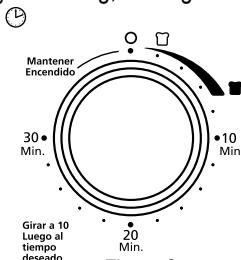

Figure 2
- 3. Timer Selector Knob** – Allows to adjust the dial to the desired time for up to 30 minutes. Oven will automatically shut off when cooking is completed. (See Figure 2)